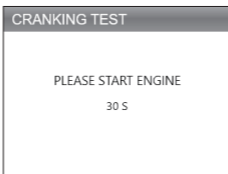

Figure 4.3.2
2. The test will start by prompting you to crank the engine within 30 seconds. (See Figure 4.3.2)